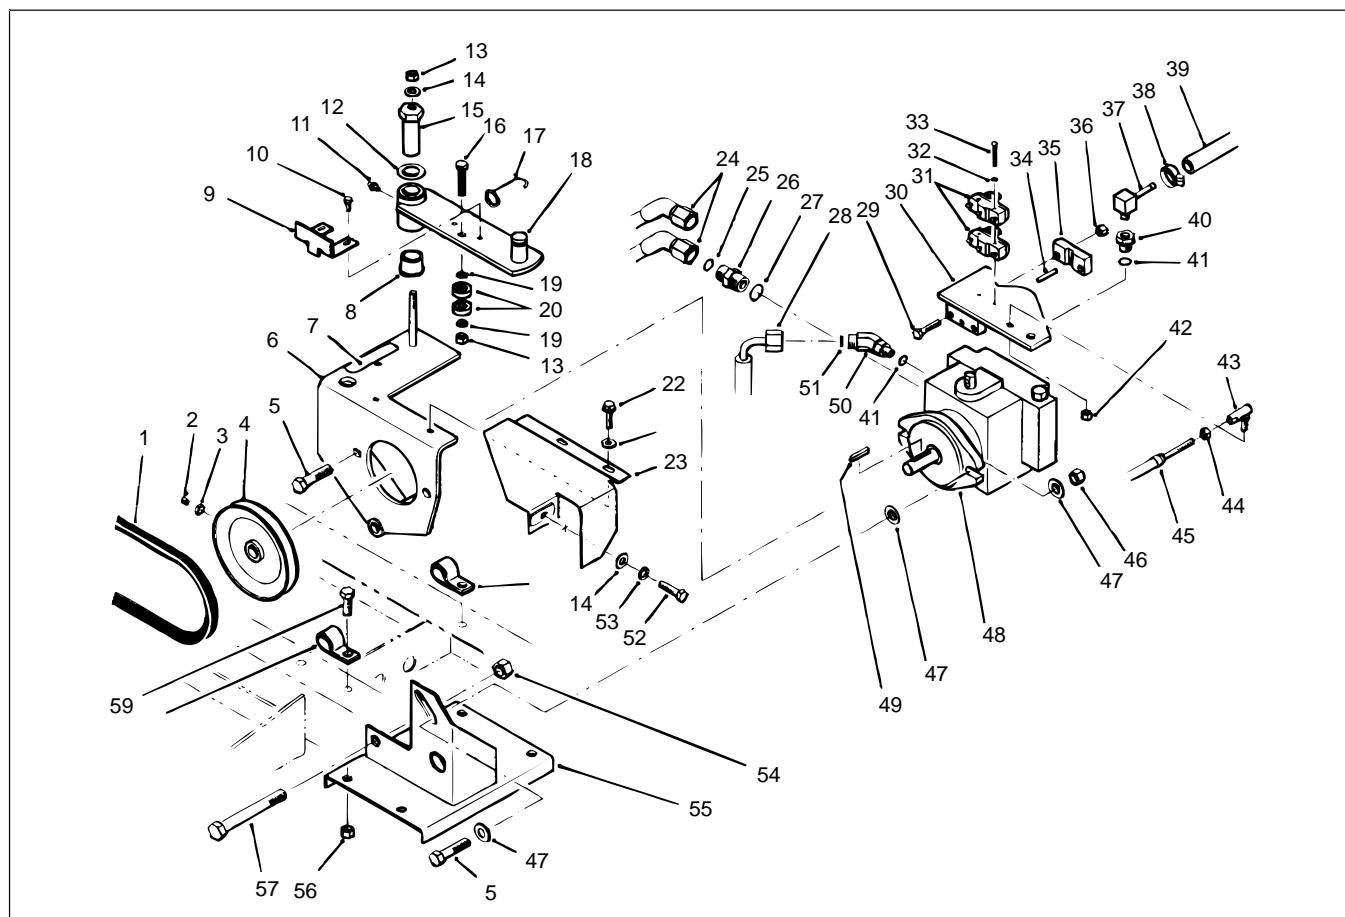

Figure 20
- C. Loose three (3) capscrews securing pulley guard bracket (Fig. 20, Item 21) to control panel and pump support.
- E. Tighten pivot nut. Tighten three (3) capscrews securing pulley guard bracket.
2. Remove pulley guard bracket (Fig. 20, Item 21).
Hydraulic Pump Removal and Installation (Fig. 20)